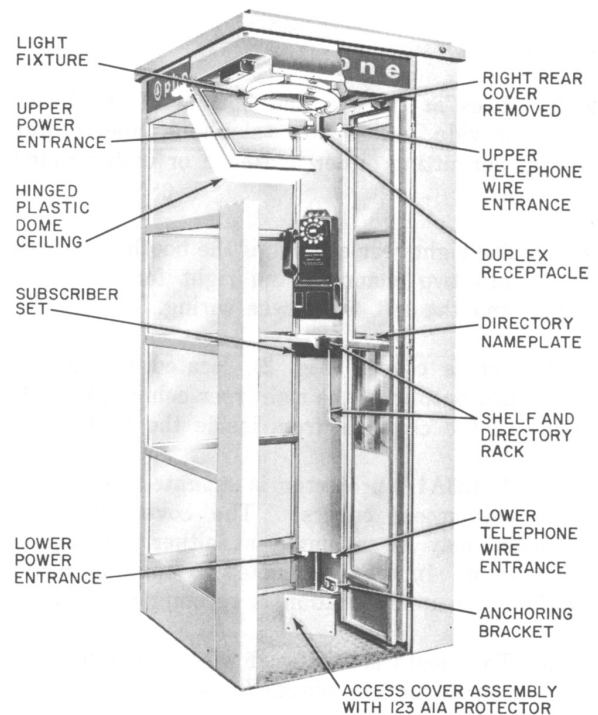

Fig. 2—KS-14611 Booth Showing Individual Features
BASIC BOOTH (Fig. 2)
The KS-14611 booth (Fig. 2) is an outdoor aluminum and glass phone booth designed for single installation.
2.14 Access covers (Fig. 2), located at the top and bottom of the right rear column, provide access to the channels from inside the booth.